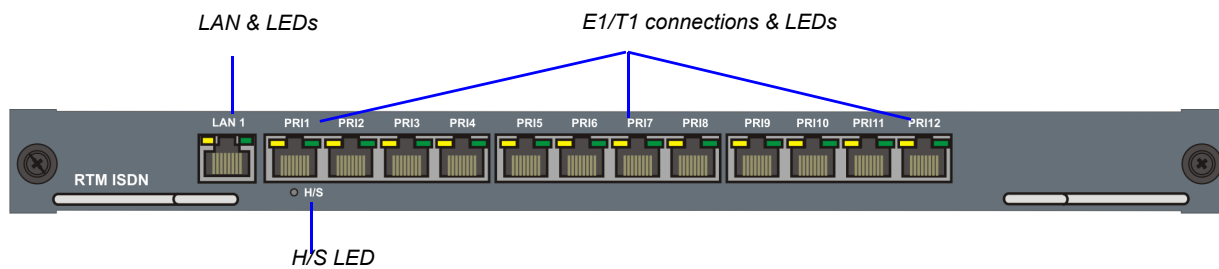

Figure 1-8 RMX 2000 RTM ISDN Rear Panel Layout
- 7 E1 or 9 T1 PRI lines that can be plugged into any of the 12 connections as shown in Figure 1-8.